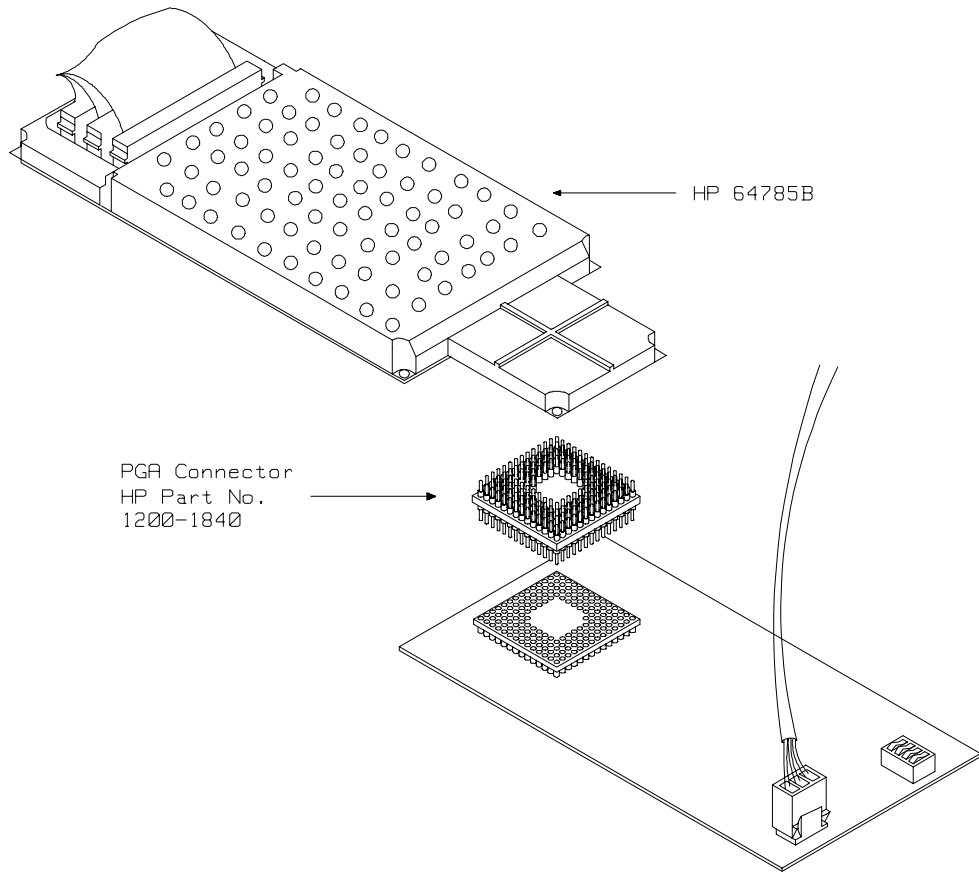

Figure 4-5 Installing the demo target board
3. With HP 64700B power OFF, connect the emulation probe to the demo target board as shown in the Figure 4-5. When you install the probe into the demo target board, be careful not to bend any of the pins.